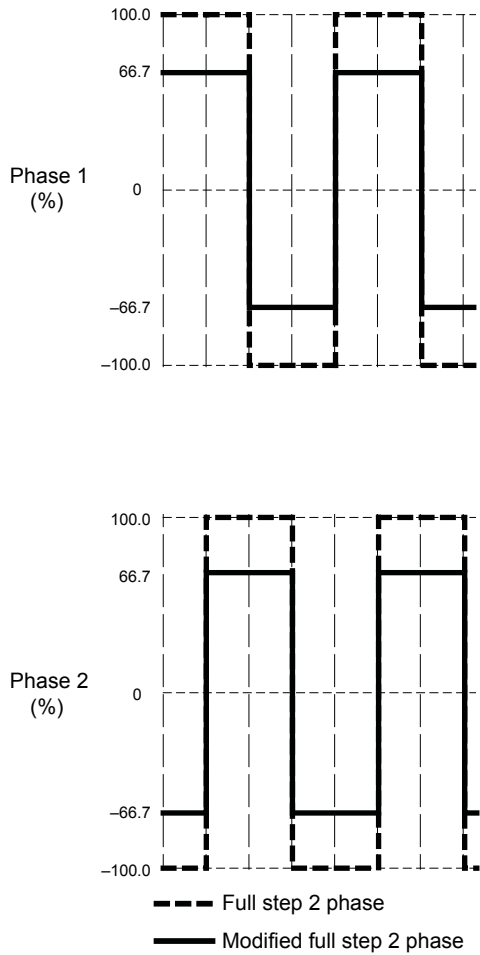

Figure 5. Step Sequencing for Full-Step Increments.
**Mixed Decay Operation.** The bridge operates in Mixed Decay mode, as shown in figures 5 through 7. As the trip point is reached, the A4987 initially goes into a fast decay mode for 31.25% of the off-time,  $t_{\text{OFF}}$ . After that, it switches to Slow Decay mode for the remainder of  $t_{\text{OFF}}$ . A timing diagram for this feature appears in figure 4.